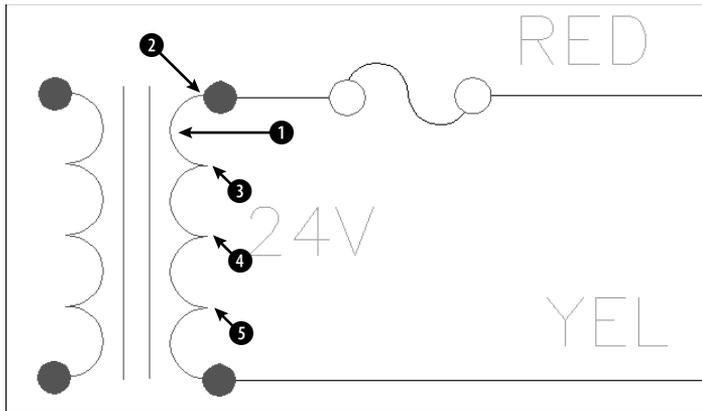

Figure 9-6: Close-up of the transformer.
4.  Note that three of the arcs that make up the right side of the transformer are missing. Pick the arc at ❶ in Figure 9-6. Choose Copy Object from the Modify toolbar. Follow the prompts:
Specify base point or displacement: *Pick the endpoint at the top of the arc at ❷ (see Figure 9-6).*
Specify second point of displacement or <use first point as displacement>: *Pick the endpoint at the bottom of the first arc at ❸ (see Figure 9-6).*
Specify second point of displacement or <use first point as displacement>: *Pick the endpoint at the bottom of the second arc at ❹ (see Figure 9-6).*
Specify second point of displacement or <use first point as displacement>: *Pick the endpoint at the bottom of the third arc at ❺ (see Figure 9-6).*